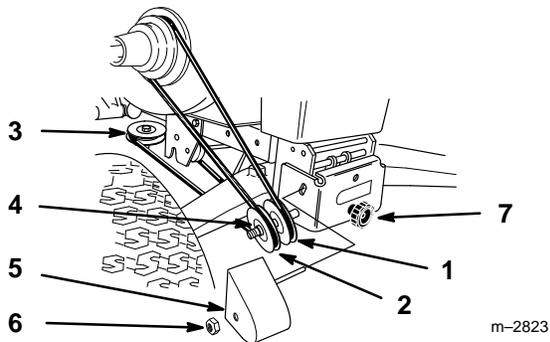

Figure 27
2. Turn knob on idler assembly clockwise to loosen belt (Fig. 27).
3. Remove locknut and belt cover from idler assembly. Remove belt from upper mower pulley (Fig. 27).